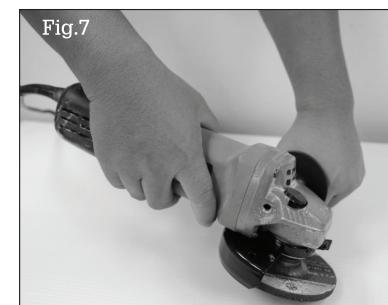

Fig.7
- In order to get good result, the slope between the disc and the working surface should be titled at the angle of 15° – 30°. (Figure 7.)